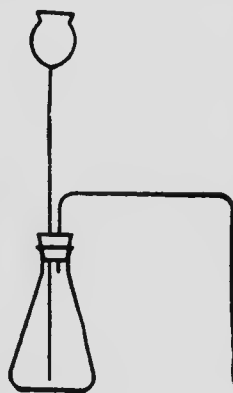

FIG 1.
**Sketch of Apparatus Used.** In making the drawings, a lead pencil and stencil may be employed, and tubes may be represented by single lines, as shown in Fig. 1.